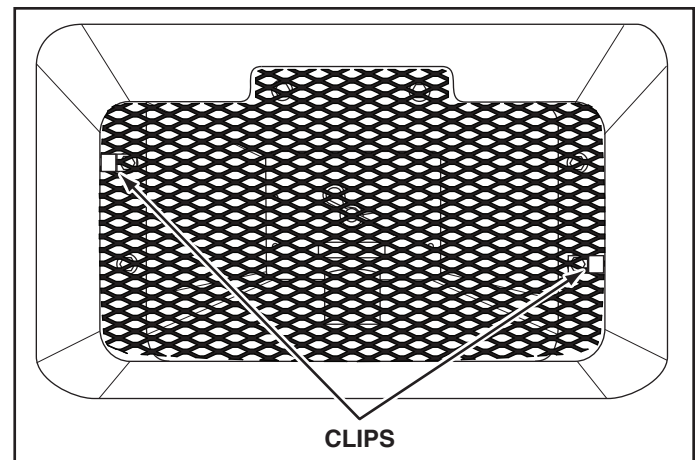

FIGURE 15
26. Place the screen down into the hopper, sliding the edge of the screen under one of the clips. Slightly bow the screen to slide the opposite side of the screen under the other clip. See figure 15.